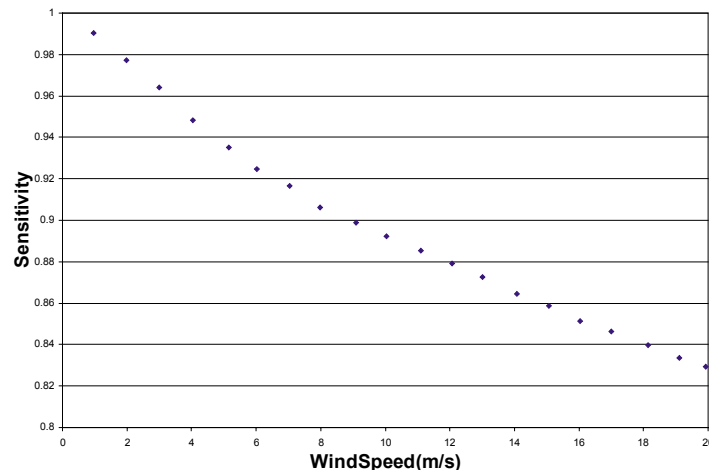

FIG. 2
Fig. 2 shows the calibration factor related with wind speed. Once we know both the net radiation - calculated through the sensitivity at zero wind speed (Fnet,0) - and the wind speed in (V) in m/s, the correct data is obtained by using the following formula: